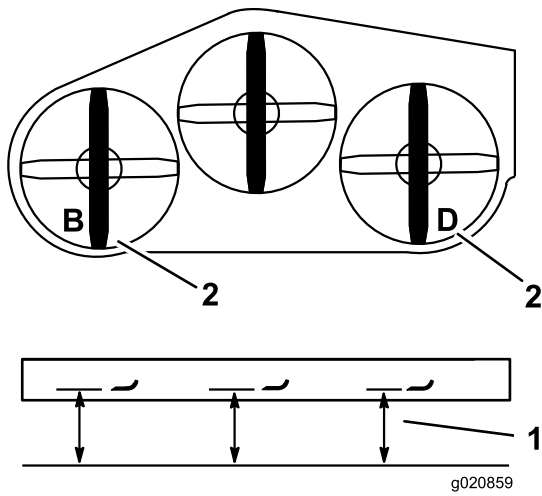

Figure 84
2. Measure the left blade at the **B** location, from a level surface to the cutting edge of the blade tip, and record this measurement (Figure 84).
3. Measure the right blade at the **D** location, from a level surface to the cutting edge of the blade tip, and record this measurement (Figure 84).
**Note:** The measurement at position **B** needs to be within 3 mm (1/8 inch) of the measurement at position **D** (Figure 84). If it is not correct, proceed to the following steps.